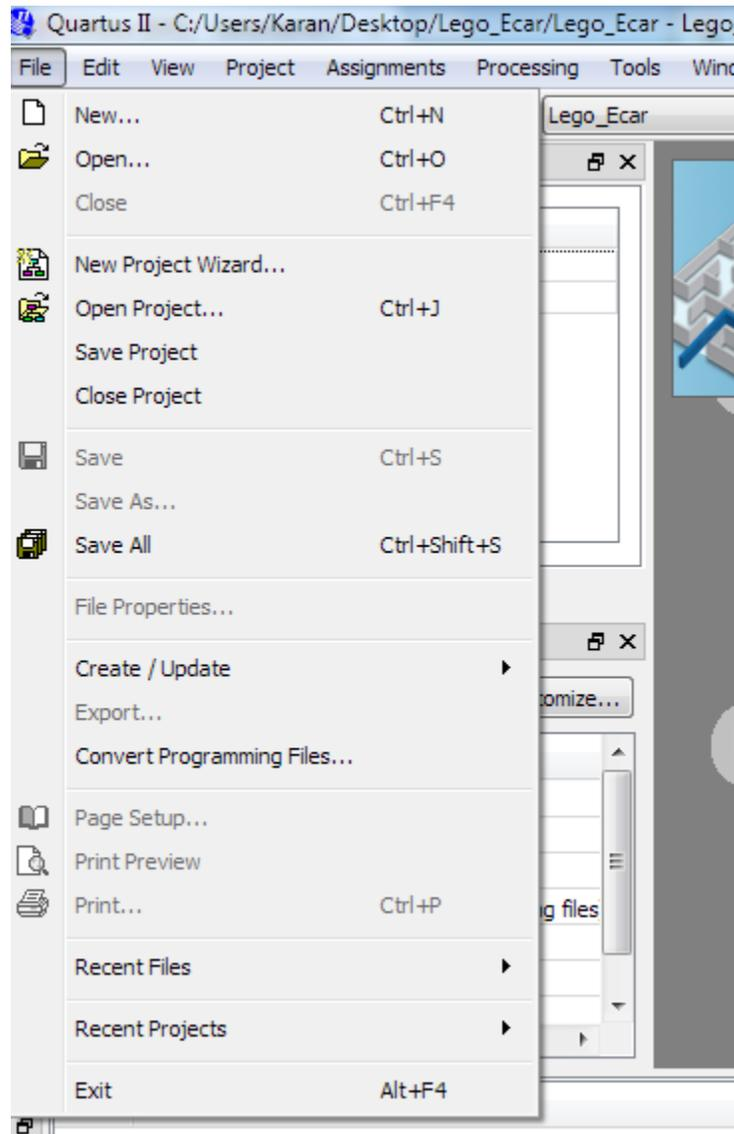

Figure 1-1 Start to Create a New Project
1. Launch Quartus II then select **File->New Project Wizard**, start to create a new project. See Figure 1-1 and Figure 1-2.